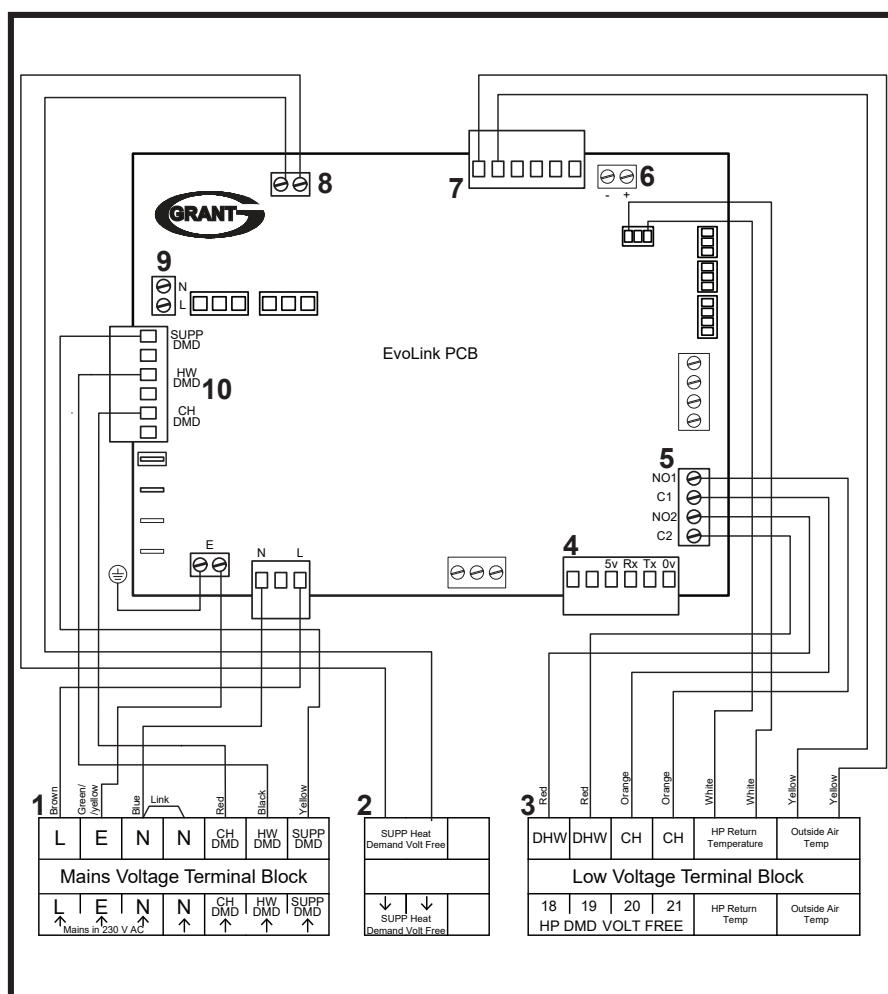

Figure 4-1: EvoLink Control PCB and terminal blocks
Most of the electrical connections are made to one of the three terminal blocks located just below the EvoLink control PCB. The connections for the electricity meter and supplementary circulating pump (if fitted) are made to terminal blocks mounted directly on the EvoLink control PCB. Refer to Figure 4-1.
The 230V 50Hz electrical power supply is connected to the 7-way Mains voltage terminal block, located to the lower left of the PCB. See Figure 4-1, Item 1.
The two terminals marked "Supp Heat Demand" on terminal block 2 (see Figure 4-1) are connected across the 'volt free' boiler control relay on the EvoLink control PCB. This relay can be used in either of two different ways, depending on how the existing boiler operates.
The 3-wire control connection from the Aeronas³ heat pump is connected to the terminals on the right hand terminal block – refer to Figure 4-1 located below the right corner of the EvoLink PCB.
This connection is made to the green 2-way terminal block – item 6 on Figure 4-1 (marked as CON18 on the PCB) located at the top right-hand corner of the PCB.
The cable is connected to the two Outside Air Temp Sensor terminals on the Low voltage terminal block 3 located at the lower right of the EvoLink control PCB – refer to Figure 4-1.